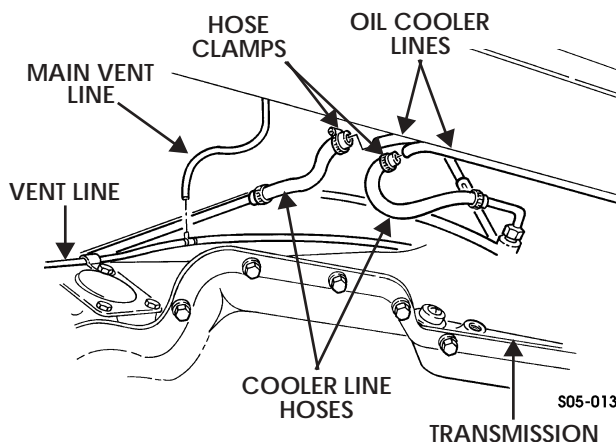

Figure 5-54: Oil Cooler Lines
10. Loosen hose clamps and disconnect oil cooler lines from transmission/transfer case cooler line hoses (Figure 5-54).
11. Disconnect main vent line from transmission/transfer case vent line (Figure 5-54).